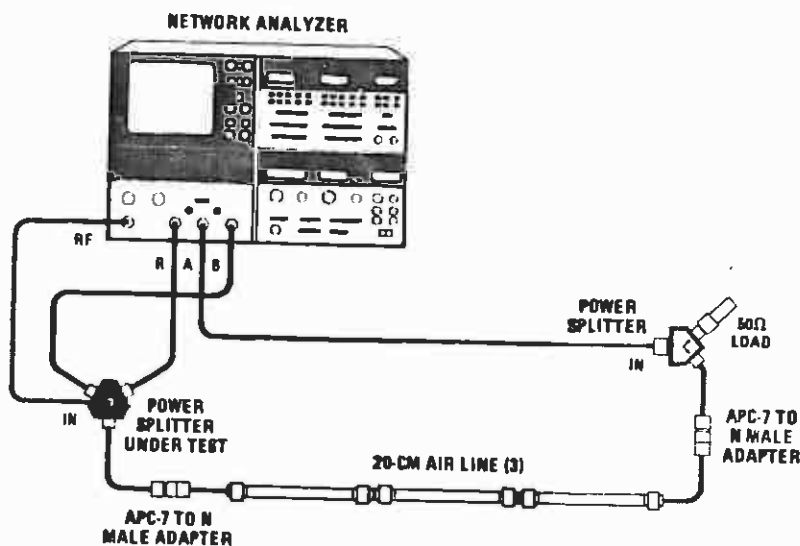

Figure 11. Equivalent Output Source Match Test Setup
- Connect equipment as shown in Figure 11.
- Disconnect HP 11850A from HP 8505A Port A. Reconnect HP 11667A to HP 8505A Port A and air line to HP 11850A as shown in Figure 11. Press HP 8505A Channel 1 DISPLAY MKR, then ZRO pushbuttons.